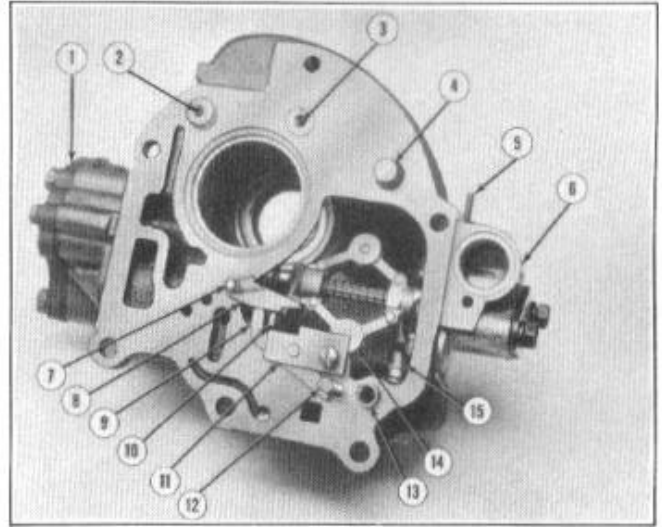

FIGURE 27
2. The direct drive pawl (2) Figure 27, must unlock the governor valve to allow the shift from direct drive to intermediate drive on deceleration.
2. Remove the two screws attaching speedometer gear housing (6), Figure 27, to the extension case and remove the cover and cover gasket.